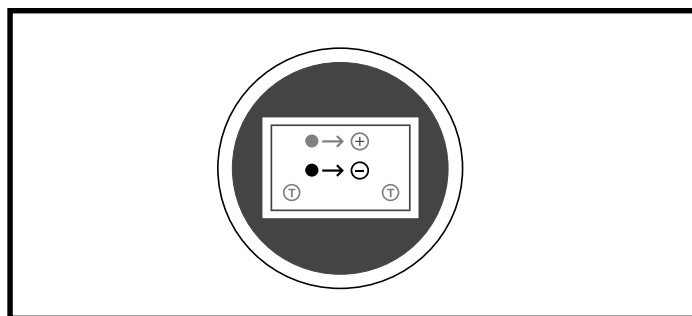

Figure 38. Battery Wiring Diagram Label
7. Reconnect the battery harnesses according to the battery wiring diagram label. See figure 38.